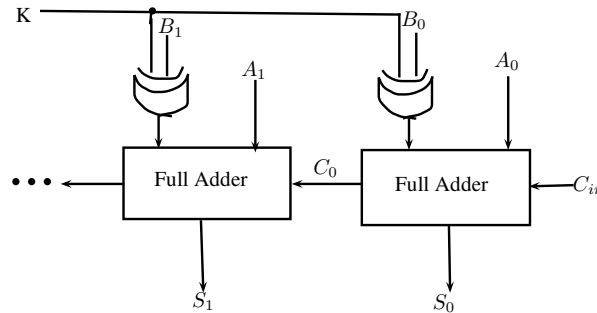

Figure 1: ALU
1. If the operands are in 2's complement representation, what operations out of A+B, A-B, A++, B++ (increment by 1) can be performed using the ALU diagram shown in figure 1? (6)